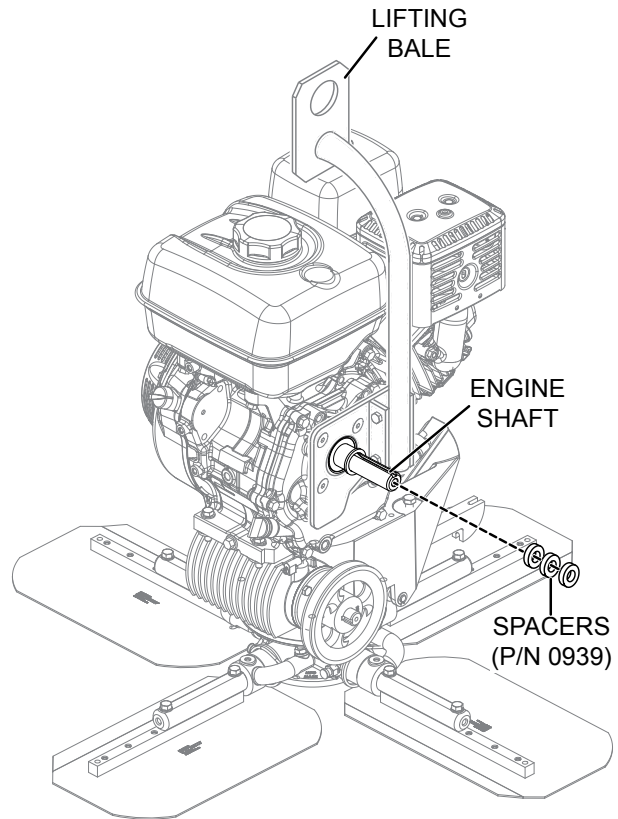

Figure 7. Spacer Installation
2. Set the spacers (3) on the engine shaft (Figure 7) and slide back until flush with the lifting bale.